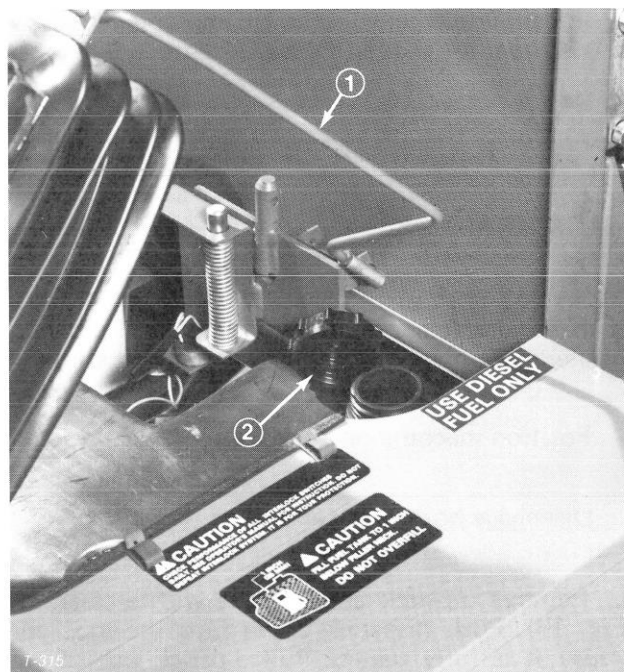

Figure 17
1. Tip seat forward and prop it with the support rod so it cannot fall accidentally (Fig. 17) Using a clean rag, clean area around fuel tank cap.
2. Remove cap from the fuel tank (Fig. 17) and fill the 8-1/2 gallon (30 L) tank to within 1 inch (25 mm) from the top with diesel fuel. Install fuel tank cap tightly after filling tank.